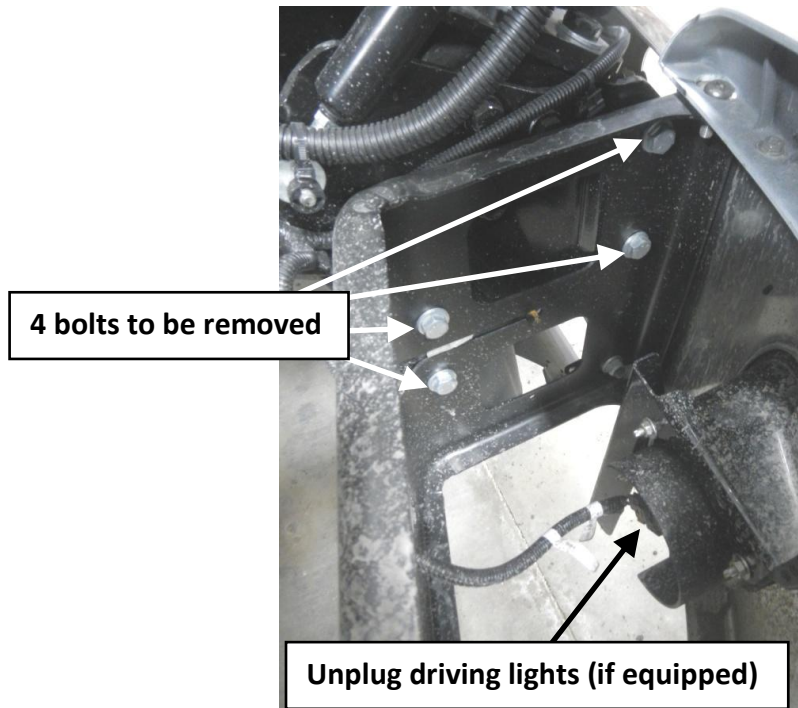

Figure 1
1. Open hood and remove factory bumper by removing 4 bolts on each side (the bumper mounting plate should not be removed). Before removing bumper from its brackets, disconnect driving lights and cables, which are fixed to the bumper (Figure 1).